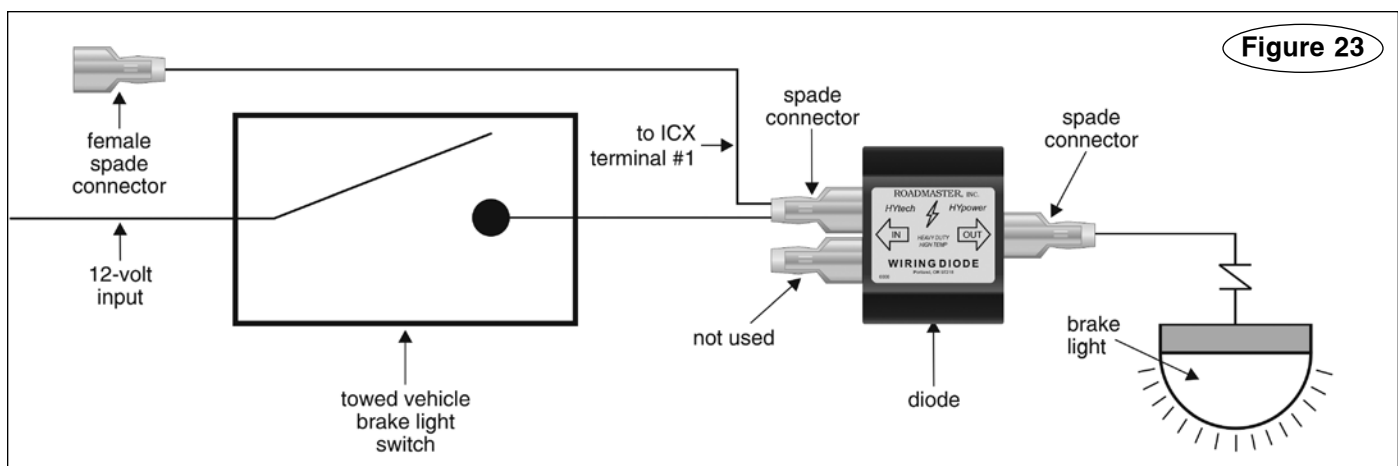

Figure 23
3. Install the diode in line, as shown in Figure 23.
1. After you have installed a diode downstream from the brake light switch (Figure 23), wire the vehicle's turn signals, taillights and brake lights for towing by installing six diodes (Figure 24).